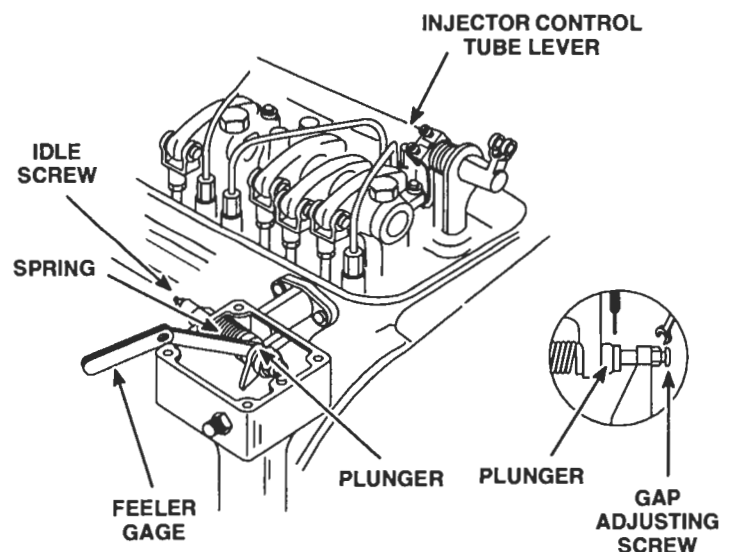

Figure 4. Adjusting Gap (Double-Weight Governor) using Tool J 3172
7. Check the gap between the low-speed spring cap and the high-speed spring plunger with a feeler gage (Figure 4.) The gap should be .002–.004 inch. If the gap setting is incorrect, reset the gap adjusting screw.